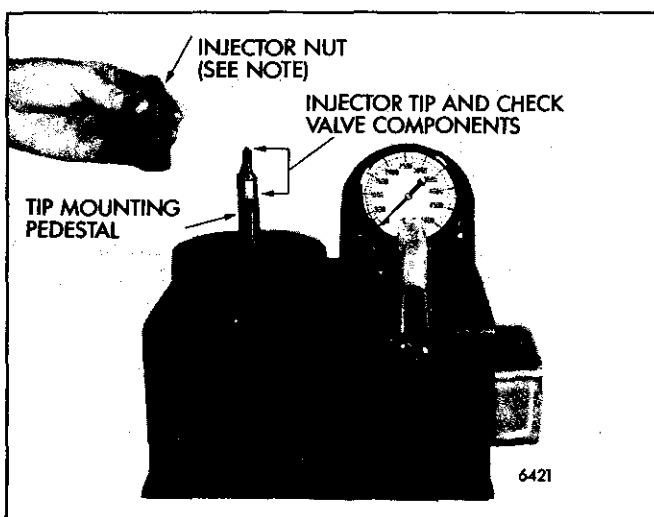

Fig. 5 – Installing Injector Nut
2. Place the tip assembly, valve spring with cage and check valve cage on top of the pedestal. Tighten the injector nut (Fig. 5).